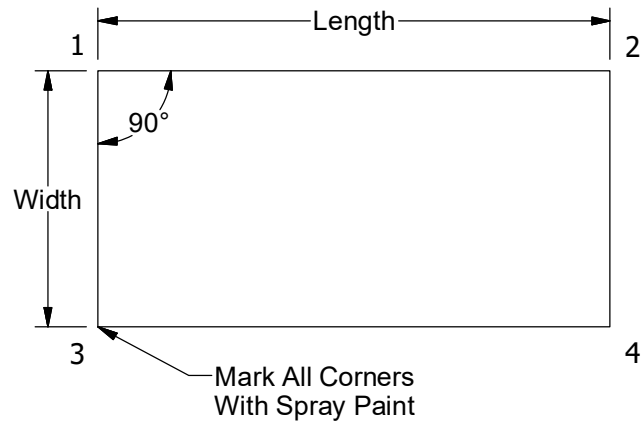

Fig 6 - Rectangle corner points
3. Using either the second or third corner, mark out the fourth/last corner. See Figure 6.
4. Using either the second or third corner, mark out the fourth/last corner. See Figure 6.